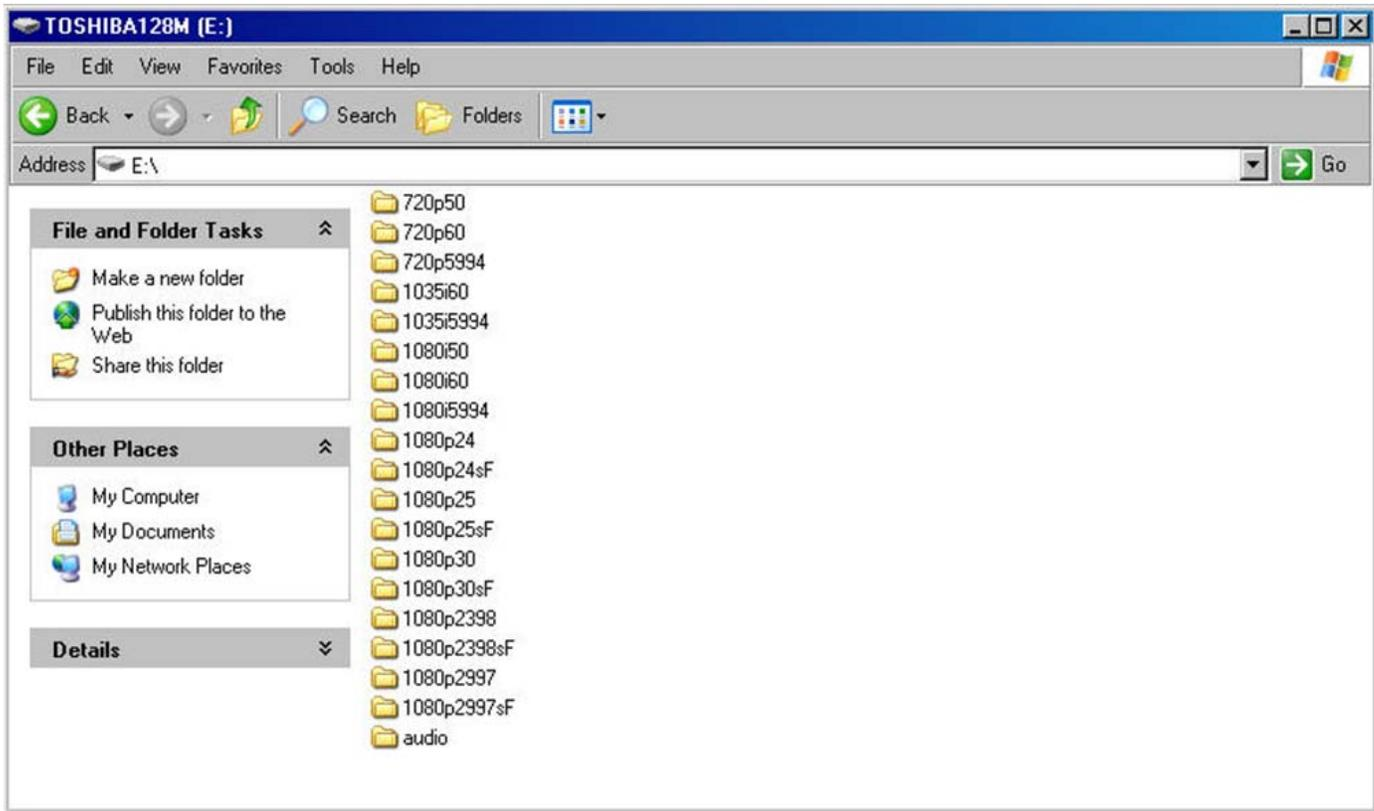

Figure 5-5: Main Compact Flash Directory Structure
5. Use Windows Explorer (or equivalent) to look at compact flash contents. The contents of the compact flash should look the same as Figure 5-5.
The 7751TG2-CF-HD can support compact flash memory of up to 1 GB. The 7751TG2-CF-HD will create the required directory structure (see Figure 5-5) for newly formatted compact flash. To do so, the user should remove the 7751TG-CF-HD module from the frame. Remove the existing compact flash from the module and insert the new one. Re-insert the 7751TG2-CF-HD into the frame.
The 7751TG2-CF-HD will automatically create the directory structure shown in Figure 5-5. However, the directories will be empty. The user would need to follow steps 1 to 11 in order to load images or audio files on the compact flash.